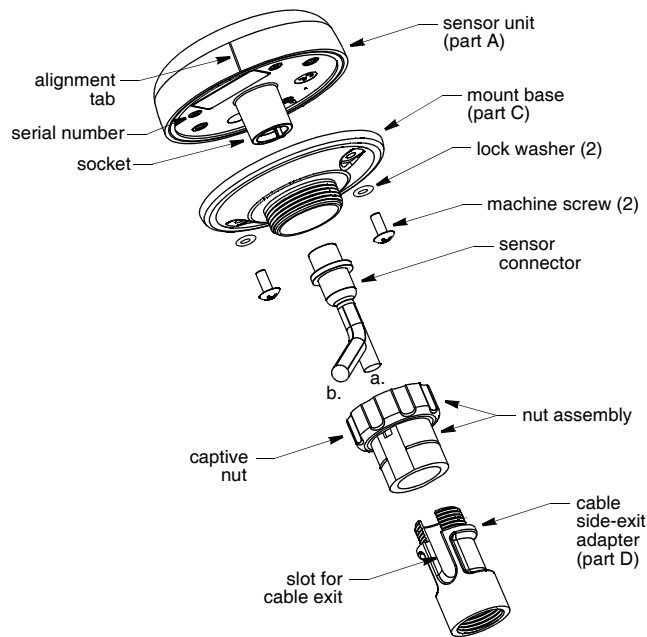

Figure 2. Pole/Rail mount
1. Remove the label from the sensor unit's socket (Figure 2). Fasten the mount base (part C) to the sensor unit (part A) with the two machine screws and lock washers supplied. The torque for the screws is 1.35Nm.